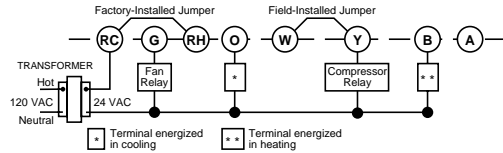

Figure 4. Typical wiring for single transformer, single stage heat pump system
- Electric heat or single stage heat pump systems: 1F56-306 energizes the fan on call for heat. Other thermostats are configured from the factory to operate a heat/cool, fossil fuel (gas, oil, etc.) forced air system. This is correct for any system that DOES NOT require the thermostat to energize the fan on a call for heat. If your system is an electric heat or heat-pump system that REQUIRES the thermostat to turn on the fan on a call for heat, remove the yellow factory-installed jumper wire from the Y terminal and connect it to the A terminal. This will allow the thermostat to energize the fan immediately on a call for heat. If you are unsure if the heating system requires the thermostat to control the fan, contact a qualified heating and air conditioning service person. For single stage heat pump applications (no auxiliary heat), install a short jumper wire (not included) across terminals W and Y. If the system has a reversing valve connection energized in Cooling, attach it to O. If the system has a reversing valve connection energized in Heating, attach it to B (see Fig. 4). This thermostat will not provide multi-stage heating or cooling.